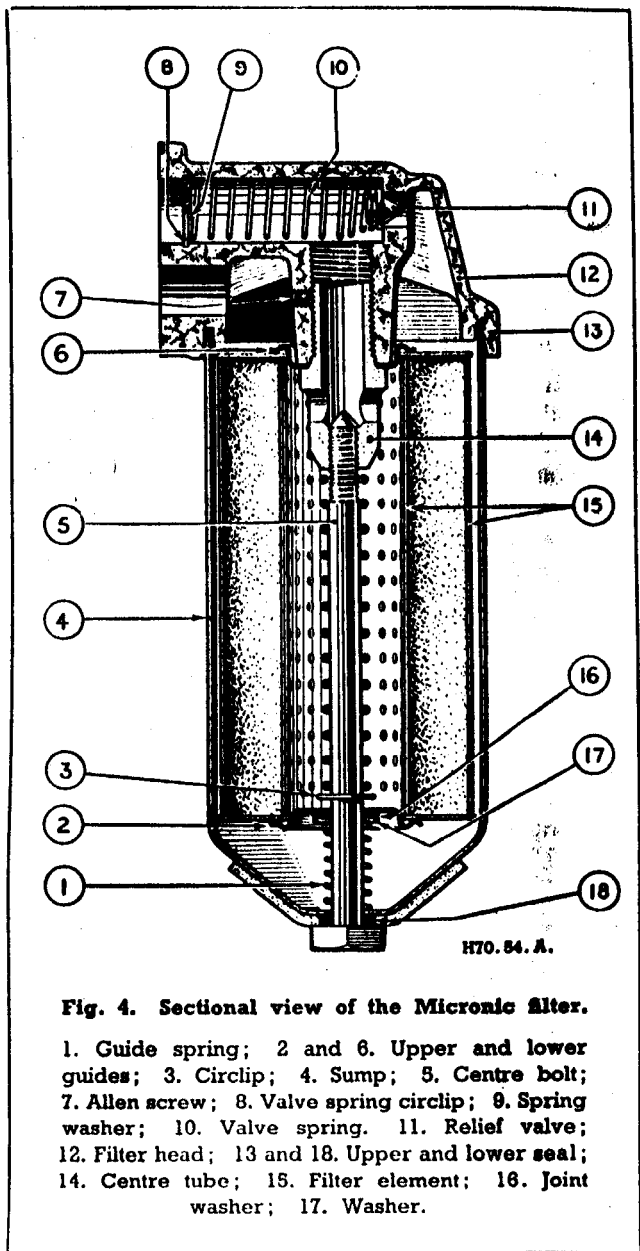

Fig. 4. Sectional view of the Micronic filter.
To remove the element, clean the exterior of the filter assembly and then unscrew the centre bolt (5) of Fig. 4, withdraw the sump (4) and element (15).